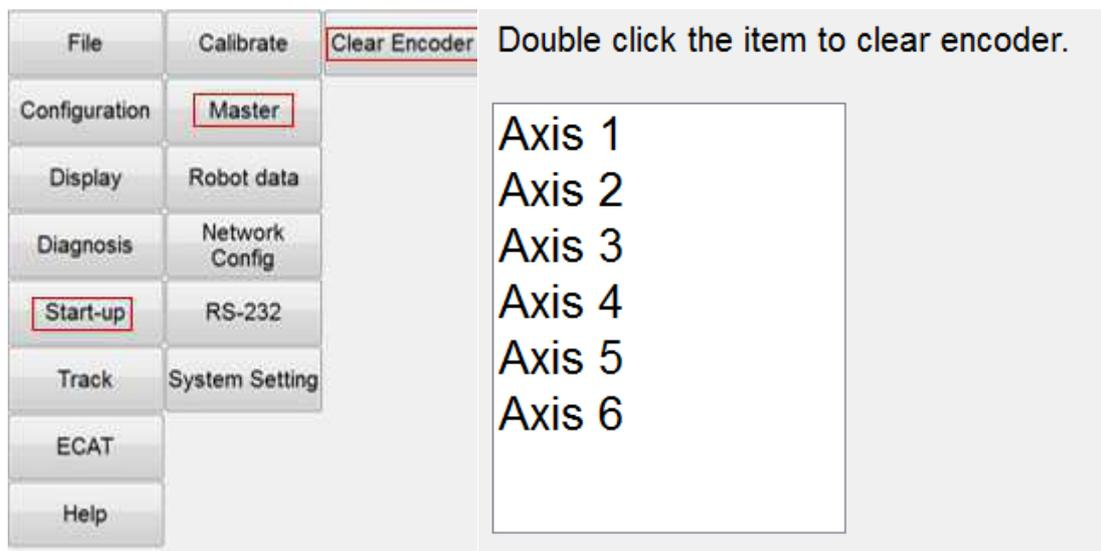

Figure 4-8 Clear encoder by HRSS
(As shown in Figure 4-8)
- Step4. Double click the axis to clear encoder. (As shown in Figure 4-8)